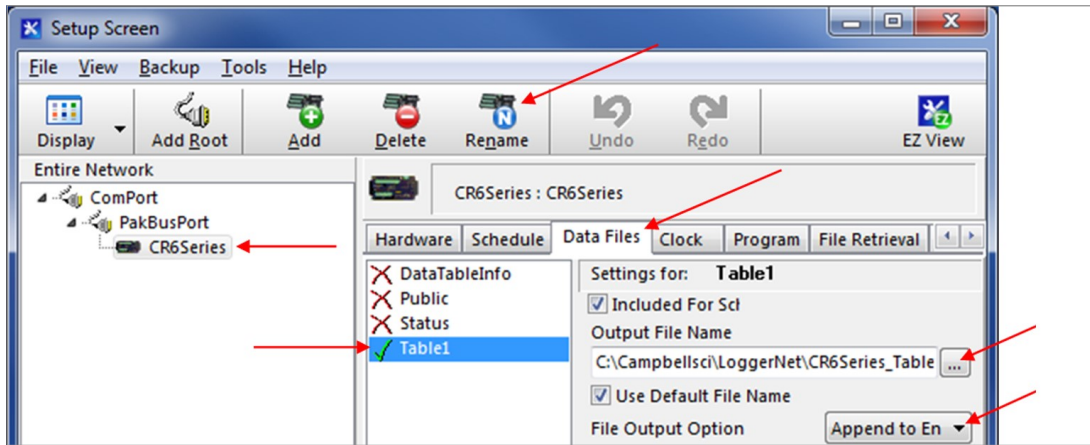

FIGURE 30: Data Files Tab
2. Select the datalogger **CR6Series**, **Data Files** tab then select **Table1** (Figure 30).